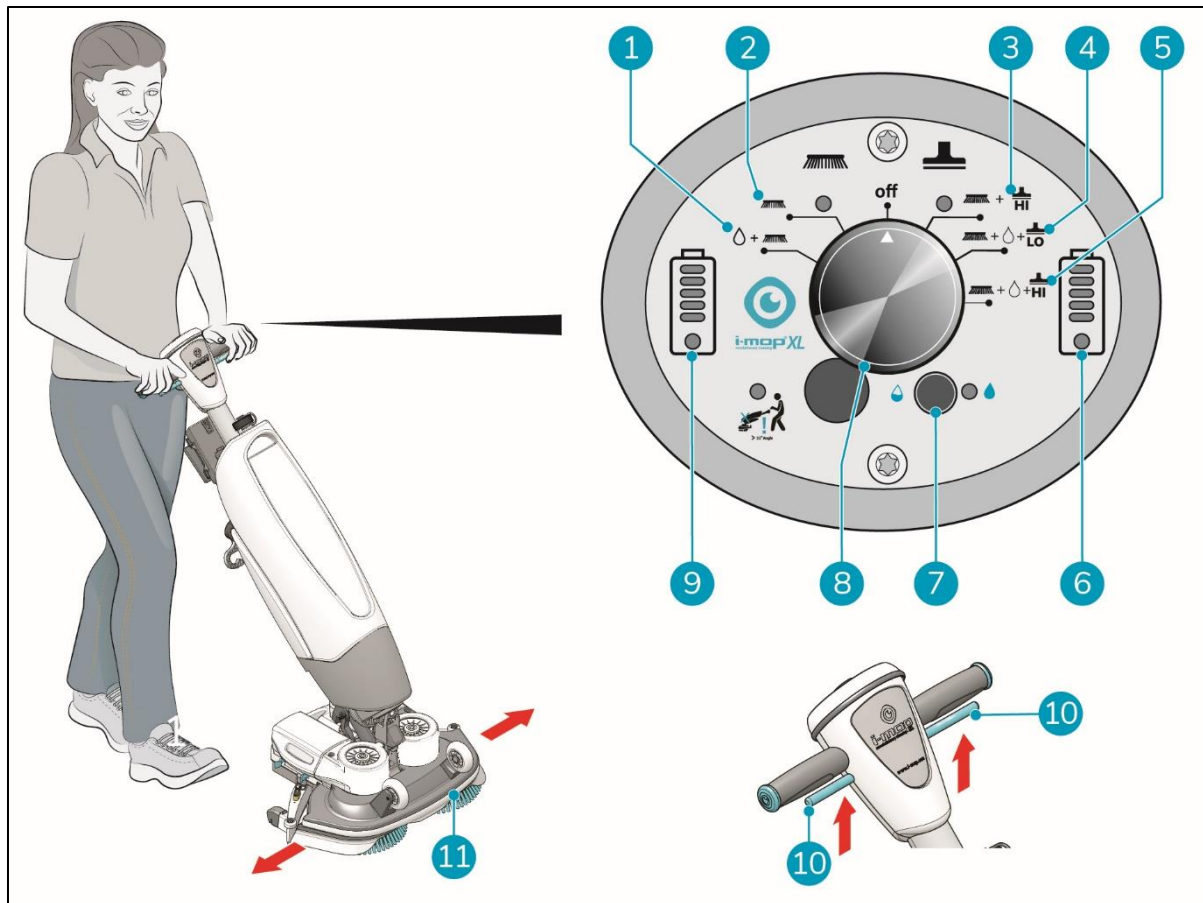

Figure 22
4. Stand behind the i-mop® XXL Pro. Choose your cleaning mode via the main switch (Figure 22, pos. 7). This will also turn on the i-mop XXL Pro. You can select the options independently or combined.
- MODE 1: Brush + water/cleaning solution (Figure 22, pos. 1).
- MODE 2: Brush only (Figure 22, pos. 2).
- MODE 3: Brush + vacuum (Figure 22, pos. 3).
- MODE 4: Brush + water/cleaning solution + Lo vacuum (Figure 22, pos. 4).
- MODE 4: Brush + water/cleaning solution + Hi vacuum (Figure 22, pos. 5).
6. Squeeze the trigger on the handle (Figure 22, pos. 10). This will also start the i-mop® XXL.
9. Steer by gently turning the handle left or right to move the scrub deck (Figure 22, pos. 11).
10. Releasing the trigger (Figure 22, pos. 10) will immediately stop the i-mop XXL Pro. The vacuum motor will stop after 3 seconds.